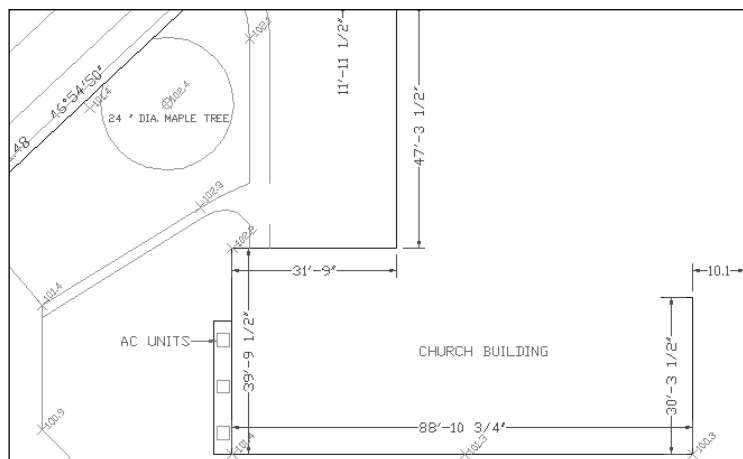

Figure 10-28: The edited site plan.
7. Save your drawing. It should look like Figure 10-28.